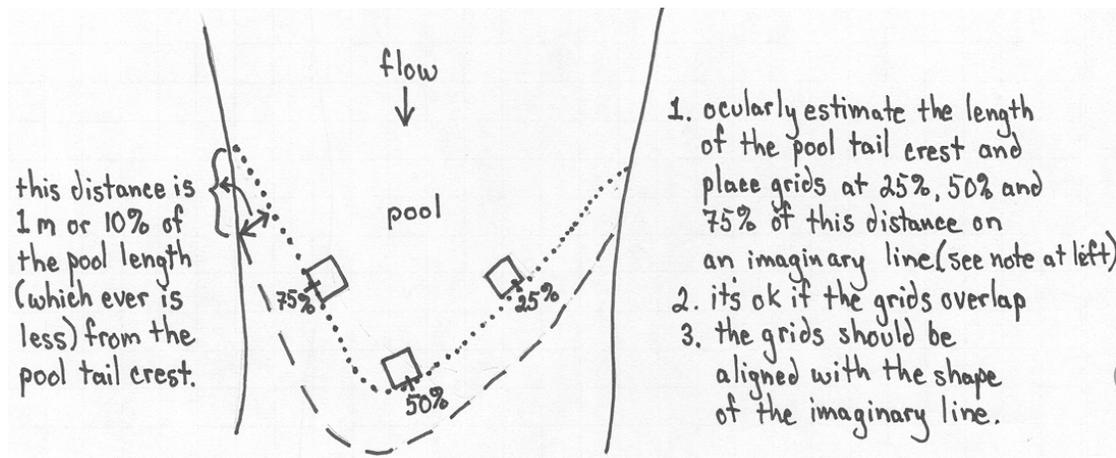

Figure 10: Example of where to place fines grid on a pool tail at 25%, 50% and 75%.
2. Take 3 measurements per pool (See Figure 10).
- a. Place the bottom edge of the grid upstream from the pool-tail crest a distance equal to 10% of the pool's length or one meter, whichever is less. Make sure that the grid is parallel to and following the shape of the pool-tail crest. (It is important to note that the pool tail crest is not always exactly perpendicular to the channel, See figure 10 below.)